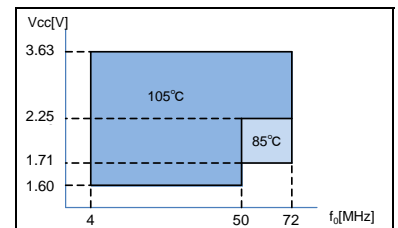

Figure 1 : The upper limit of Operating temperature and the related conditions
| Supply voltage | V_{CC} | 1.60 V to 3.63 V 1.71 V to 3.63 V 2.25 V to 3.63 V | 4 MHz $\leq f_o \leq$ 50 MHz, $T_{use} = +105$ °C Max. fo = 72 MHz, $T_{use} = +85$ °C Max. fo = 72 MHz, $T_{use} = +105$ °C Max. Refer to Figure 1 | | | | | | | | | | | | | | | | | | | | | | | | |
| ④Supply voltage *See Figure 1 | | ⑥Frequency tolerance / ⑥Operating temperature range | |
| ③Supply voltage *See Figure 1 | | ⑤Frequency tolerance | |